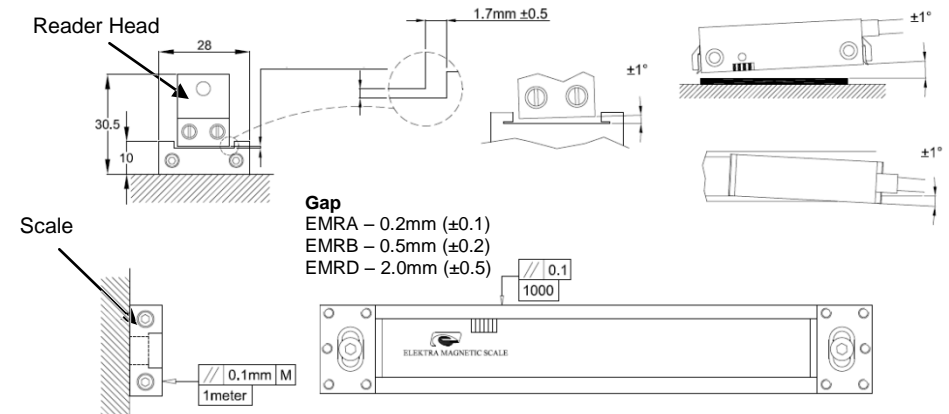

Figure 2
**Reader head:** Standard gap between reader head and scale should be as per given in table in Figure 2. Plastic shim is provided to maintain this gap between reader head and scale during installation. Refer Figure 2 for further alignment data.